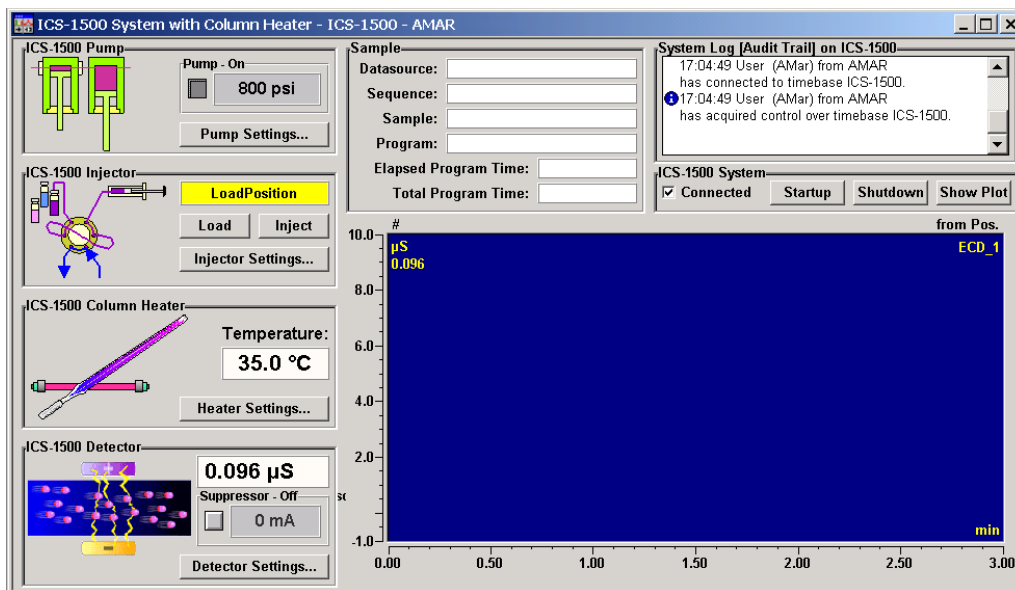

Figure 33. ICS-1500 System Control Panel Example
19. Double-click the .pan file to open the Control panel for your system (see the example in Figure 33).